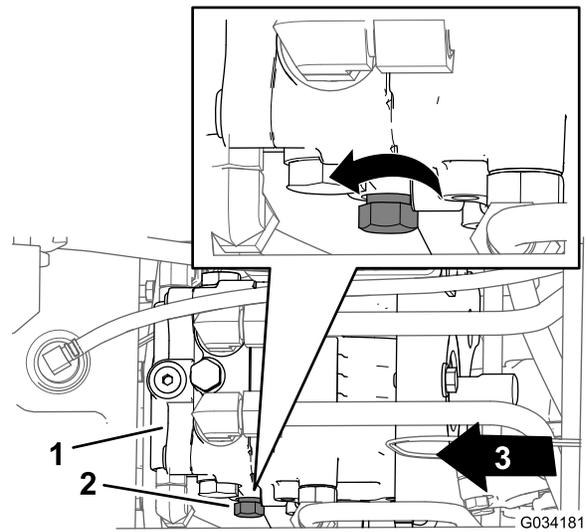

Figure 32
3. Rotate the control knob 3 turns counterclockwise (Figure 32).
2. Locate the control knob for the bypass valve at the left side of the hydraulic pump (Figure 32).
1. Locate the control knob for the bypass valve at the left side of the hydraulic pump (Figure 32).
2. Rotate the control knob (Figure 32) clockwise until you feel resistance (the bypass valve is closed).